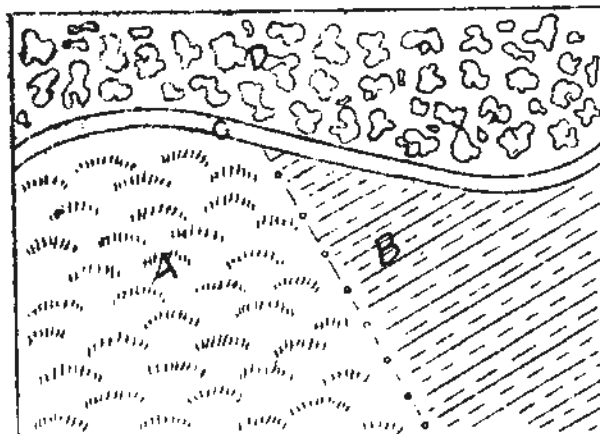

FIG. 8
29. Which one of the features on Fig. 8 will show up lightest on an aerial photograph, a, b, c, or d?